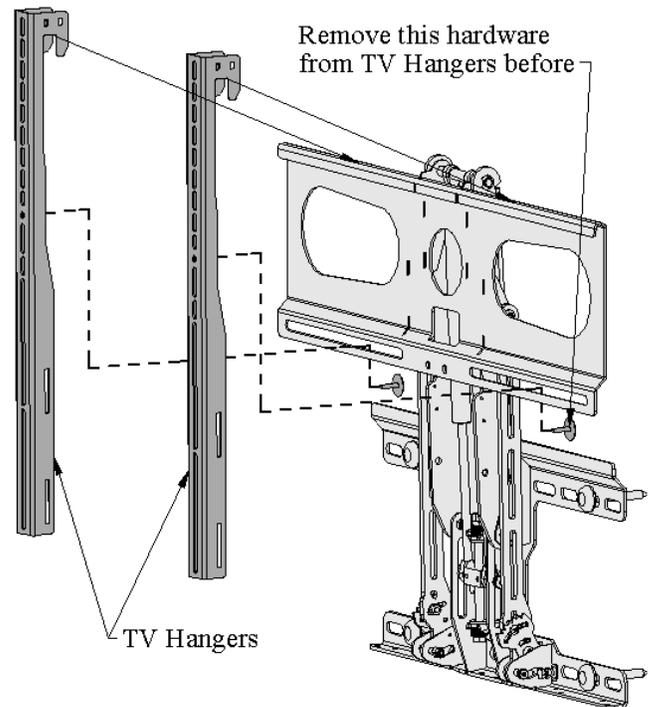

Figure 8, Attaching the Television
5. Hook the TV Hangers (with the TV attached to them) over the Hook Plate as shown in Figure 8.